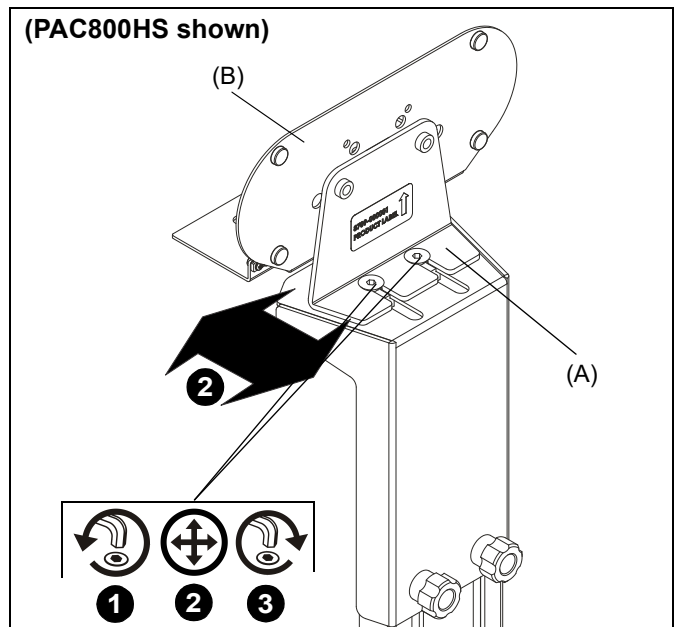

Figure 7
1. Loosen two flathead cap screws on back of main bracket (A). (See Figure 7)
2. Adjust shelf (B) to desired mounting depth. (See Figure 7)
3. Tighten two flat head cap screws on bracket (A) until mount is secure. (See Figure 7)